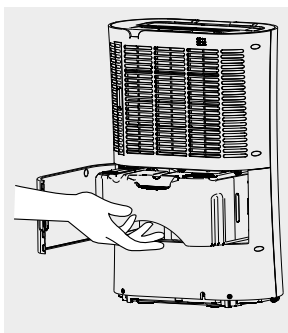

Fig. 2
1. Empty the water tank (9) when the appliance indicates the necessity by the red indicator light (2j) and after each use.
2. Open the water tank door (8) and firmly but gently remove the tank from the case (Fig. 2).